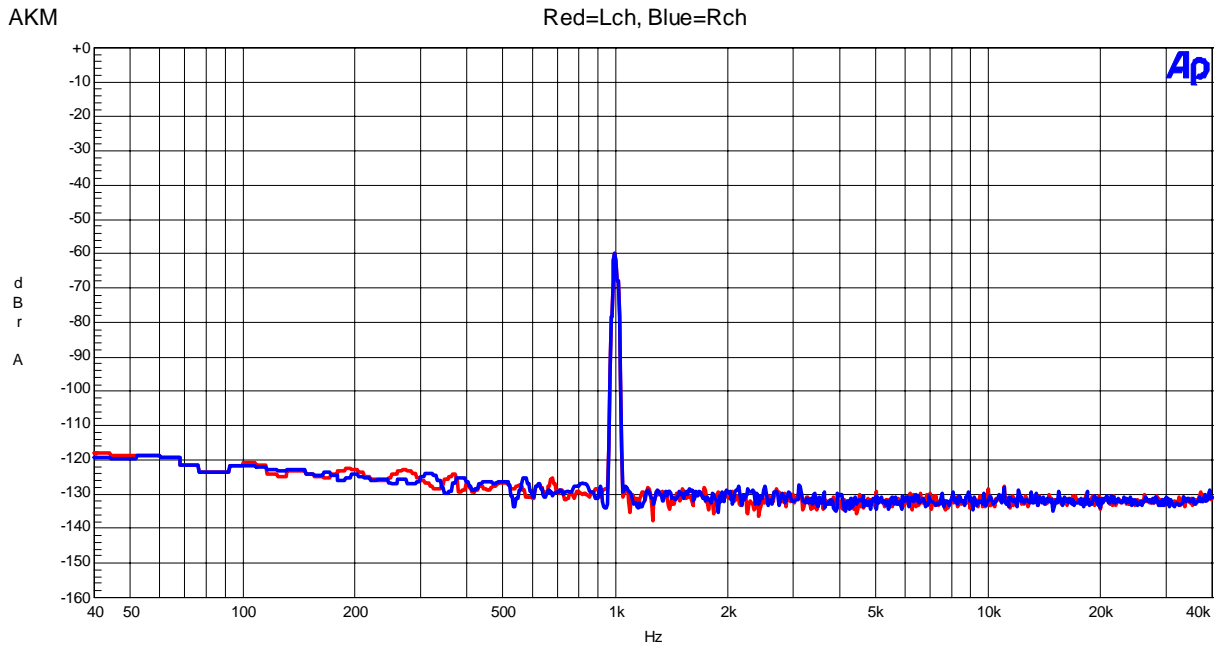

Figure 33 FFT (1kHz, -60dBFS input)
- Figure 33 FFT (1kHz, -60dBFS input)